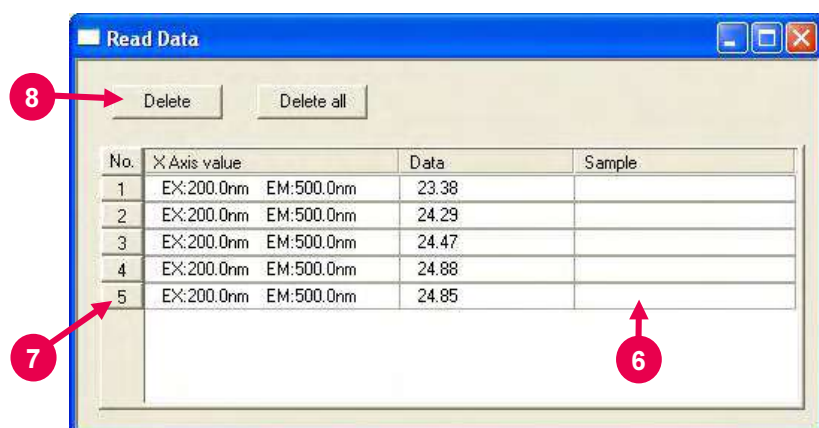

Fig. 7-55
- (5) In data reading, sample name information is also indicated. Sample names can be input. For input, click the sample name column. (Refer to ⑥ in Fig. 7-55.)
- (6) Read data can be deleted. To delete a data value from the table, click the relevant No. (refer to ⑦ in Fig. 7-55). Then click the **Delete** button (refer to ⑧ in Fig. 7-55). A dialog box as in Fig. 7-56 will appear. Click the **Yes** button (refer to ⑨ in Fig. 7-56), and the data value will be deleted.